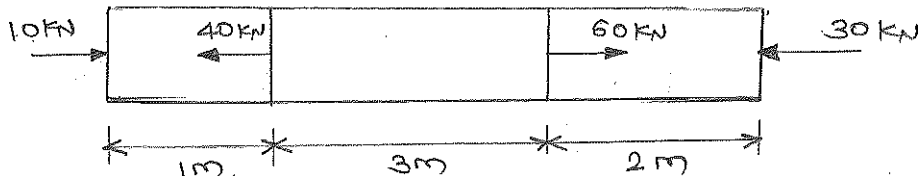

Fig. 1
- d) A brass bar having a cross-sectional area of 1000 mm^2 is subjected to Axial forces as shown in Fig. 1. Find the total change in length of the bar. Take $E = 1.05 \times 10^5 \text{ N/mm}^2$.